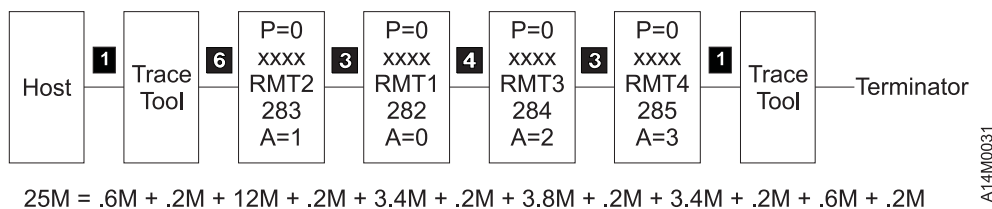

Figure 9-43. SCSI Bus Cable Lengths
1. Get the layout of failing SCSI bus. The maximum SCSI bus length for a differential SCSI bus is 25 m (82 ft.), minus 0.2 m (0.66 ft.) per connection. Figure 9-43 shows an example of how to calculate the bus length. Figure 9-43 shows the cable part numbers for each length. Ensure that the total length does not exceed the maximum of 25 m (82 ft.).